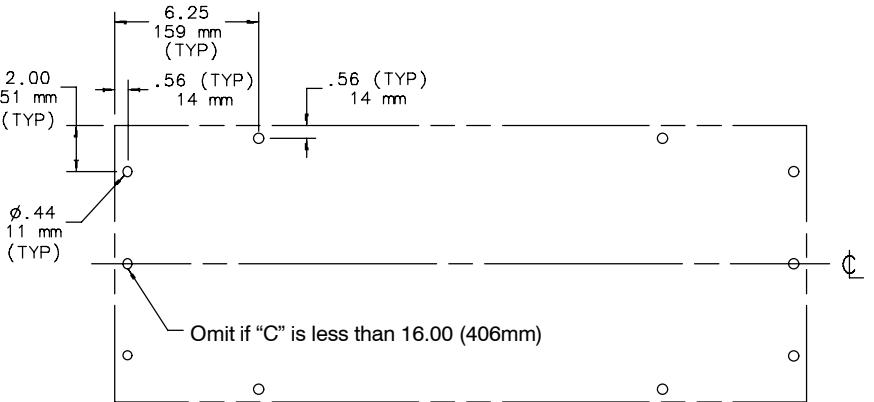

Figure 2 – Enclosure Bottom Hole Pattern
3. Drill the appropriate hole pattern in the bottom of the enclosure as shown in figure 2.